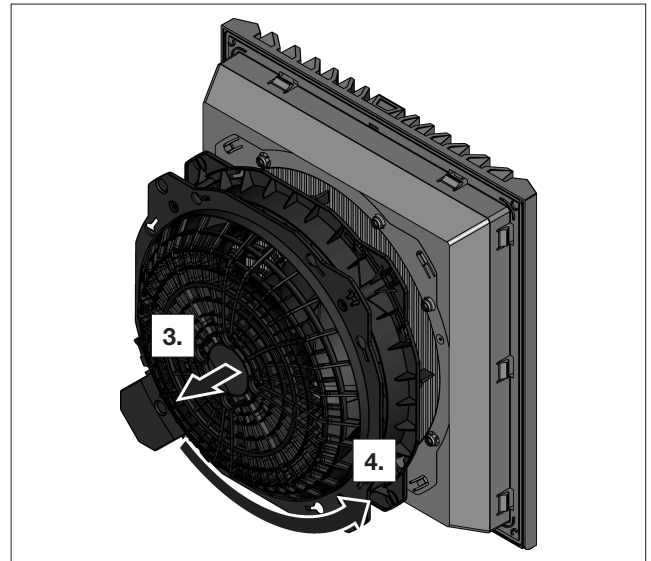

Fig. 11: Turning the fan housing
- Then turn the fan housing by 90°, 180° or 270° so that the electrical connection is in the desired position (see fig. 11).